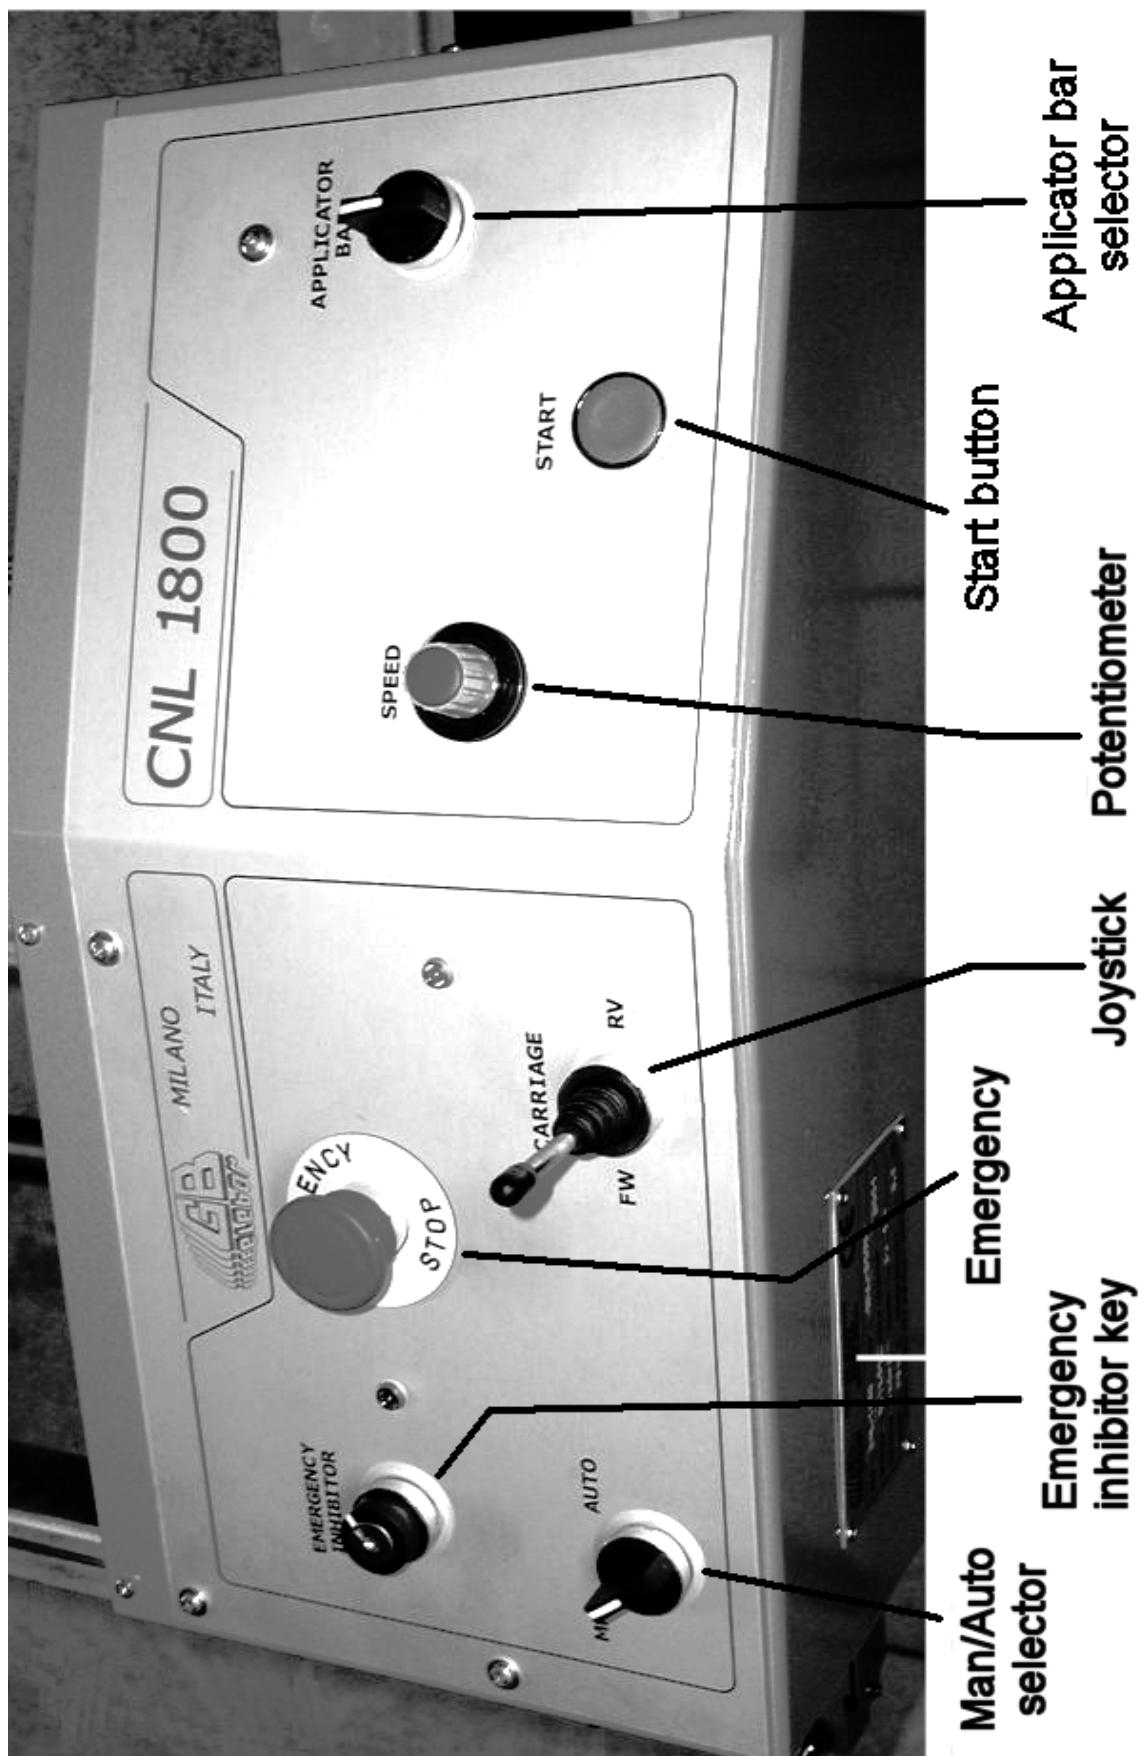

Fig. 2
2. When the **yellow LED** became bright (see fig. 2 (**BT**)) the car is receiving electric power.
3. After few seconds the **red LED** (see fig. 2 (**Emergency**) which signals emergencies is going to blink; that mean that CNL1800 is ready to work but in stop state
1. Turn the job mode selector towards **MAN** (see fig. 2)
2. Press the **START** button (see fig. 2):
To work in manual mode you need to turn the **MAN/AUTO** selector towards **MAN** (see fig. 2).
Turning right the **APPLICATOR BAR SELECTOR** (see fig. 2) the applicator bar pushes down the tape on the fabric.
Turning left the **APPLICATOR BAR SELECTOR** (see fig. 2) the applicator bar pulls up the applicator from the fabric.
To tune the CNL1800 speed you need to rotate the **POTENTIOMETER** (see fig. 2).
3. Press **START** (see fig. 2)
6. Then press **START** (see fig. 2) again
1. Turn selector on **MAN** (see fig. 2) to access to the manual commands
3. Turn the selector on **AUTO** (see fig. 2)
7. Press **START** (see fig. 2)
11. Press **START** (see fig. 2) to bring back CNL1800
- The big **red emergency** button (see fig. 2 (**Emergency**) has been pressed
- if the **red led** (see fig. 2 (**Emergency**) is on but not blinking then the inverter that drives the CNL1800 translating motor is out of order:
- if the **yellow led** (see fig. 2 (**Emergency**) is off there is no power supply for the auxiliary circuits. Please check for the fuse integrity.
Simply press **START** (see fig. 2) again.
If the power suply takes back within 280 hours (round 7 days!) it is enought to press two time **START** (see fig. 2), one for the switching on emergency and one to start again the cycle.